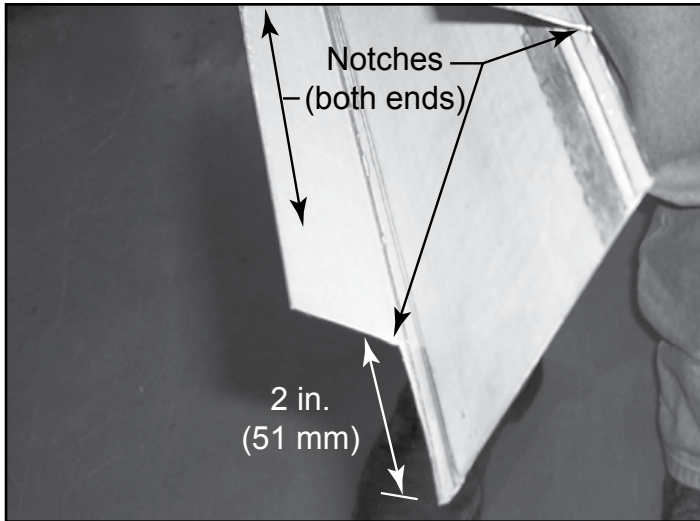

Figure12.12 Notch the Metal Track
- Notch each end of the track 2 in. (51 mm). See Figure 12.12.